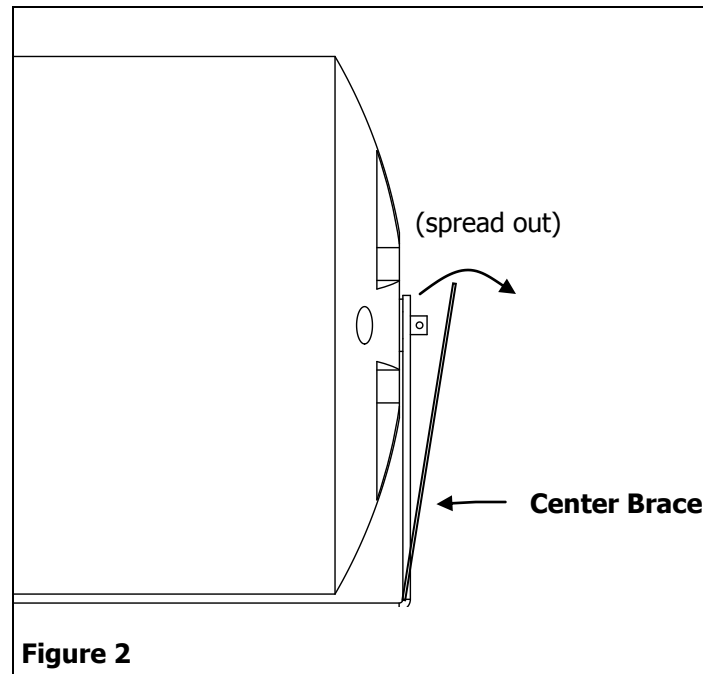

Figure 2
3. Place one end of the Center Brace over one side of the axle then the opposite end. See Figure 1. NOTE: You may have to pull (spread out) one end of the Center Brace to get it to go over the axle. See Figure 2.